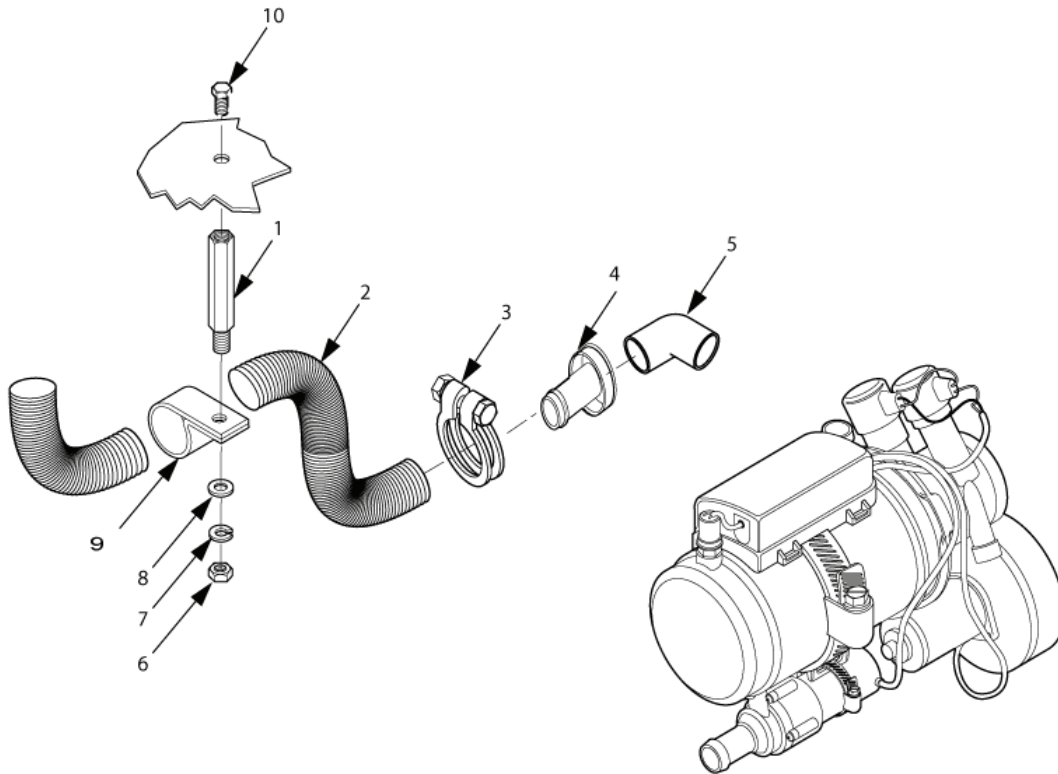

Figure 6-32. Exhaust Hose Removal.
- m. Remove exhaust hose (2, Figure 6-32) by loosening clamp (3), and removing adapter (4) from exhaust elbow (5). Remove bolt (10), spacer (1), nut (6), lock washer (7), and flat washer (8). Discard lock washer (7). Remove clamp (9). Be sure to replace bolt (10), flat washer (8), new lock washer (7) and nut (6) back in existing hole after removing hose.